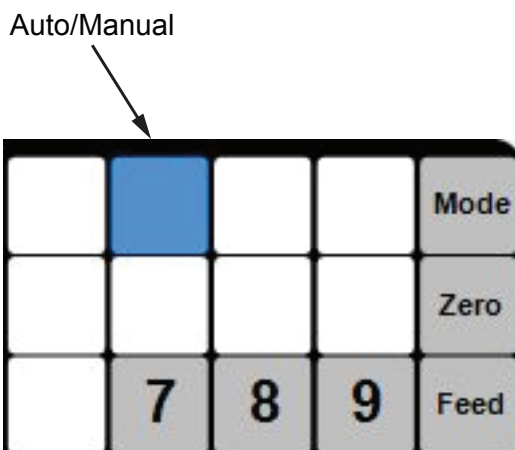

Figure 28-2
5. Double click on the applicable preset key. The Edit Preset Key - SlpNet.mdb dialog box will display. See Figures 28-2 and 29-1.